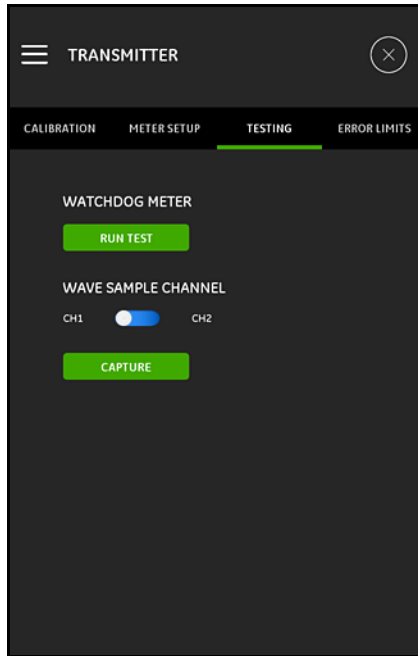

Figure 114: The TESTING Menu
The **TESTING** menu (see *Figure 114* below) is used to ensure that the PT900 is performing properly. The following tests are included:
1. Click the **RUN TEST** button in the **TESTING** menu (see *Figure 114 on page 121*).